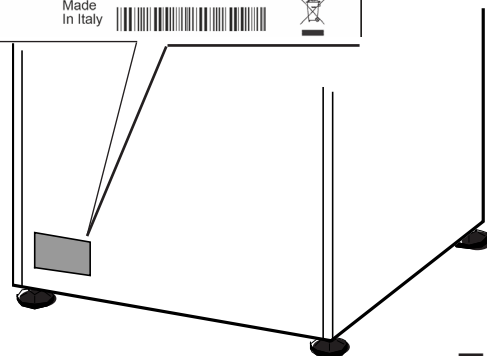

Fig. 5
- Before connecting to the electricity main, always check that the data pertaining to the power source correspond to those indicated on the identification plate (pos. 9 Fig. 5) and that the main electric power switch installed prior to the machine is disconnected "0" OFF.
- Connect the electrical power cable (14) to the main switch installed prior to the machine
- Connect the equipotential ground conductor to the terminal (15).